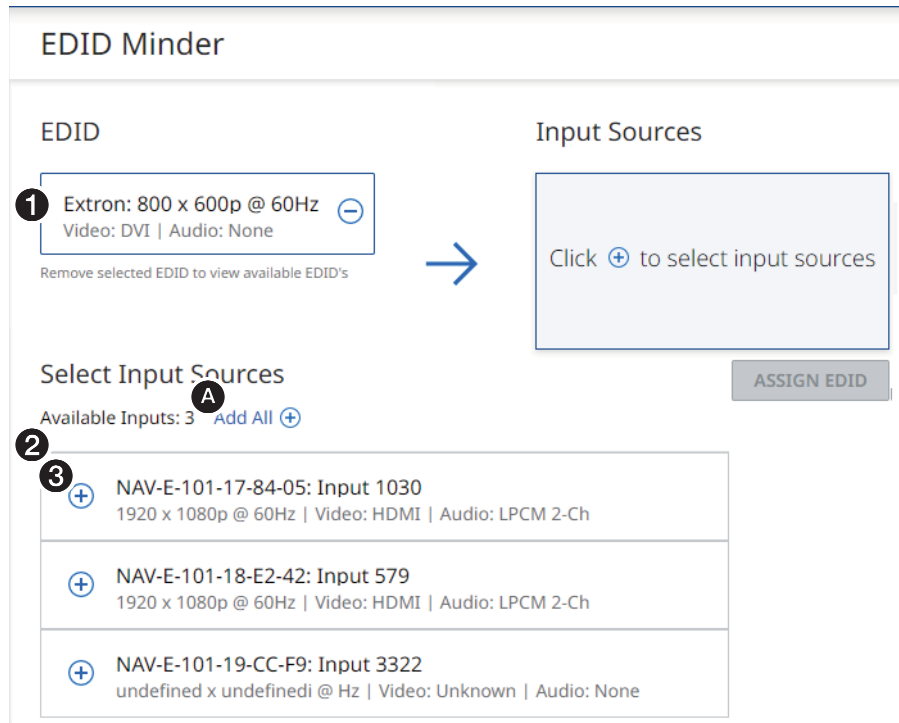

Figure 53. EDID Page With EDID Selected
2. If necessary, click **EDID** (❷). The EDID page displays a library of EDID files which you can select and then assign to one or more inputs (encoders).
3. Select the desired EDID (click the ⊕, ❸). The selected EDID displays in the EDID field (see figure 53, ❶ on page 55). Available input sources are also displayed (❷).
4. Select one or more desired Input Sources (click the **+**, see figure 54, **3**). The selected sources display in the Input Sources field (see figure 53, **1**).